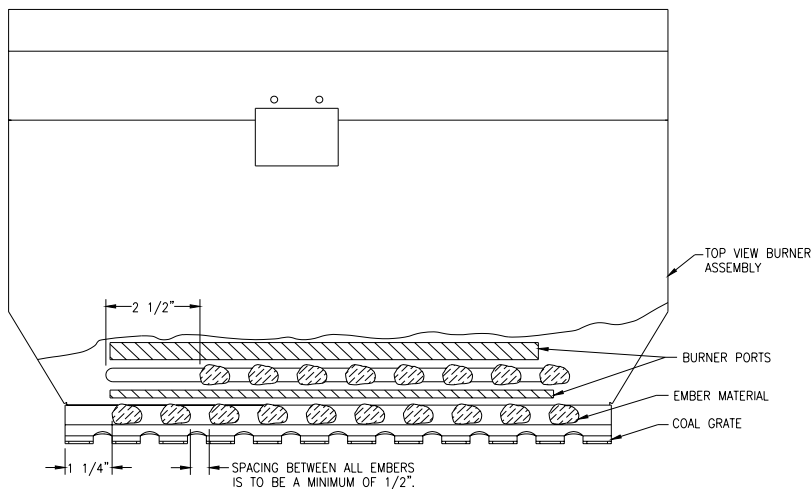

Figure 14
2. Install embers as shown in Figure 14.